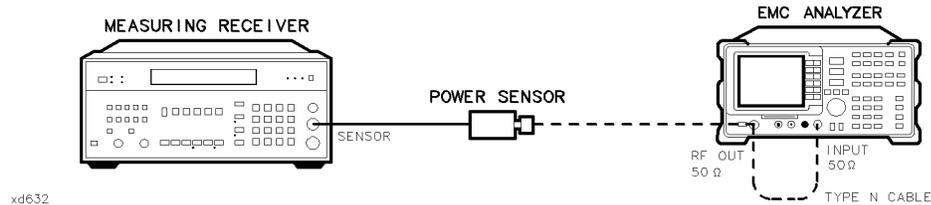

Figure 2-74.
1. Connect the Type N cable between the RF OUT 50 Ω and INPUT 50 Ω connectors on the EMC analyzer. See Figure 2-74.
- AUX/USER** Track Gen SRC PWR ON OFF (ON) 102 **dB μ V**
5. Disconnect the Type N cable from the RF OUT 50 Ω and connect the 100 kHz to 2.9 GHz power sensor to the RF OUT 50 Ω . See Figure 2-74.
- SRC PWR ON OFF** (ON) 87 **dB μ V**